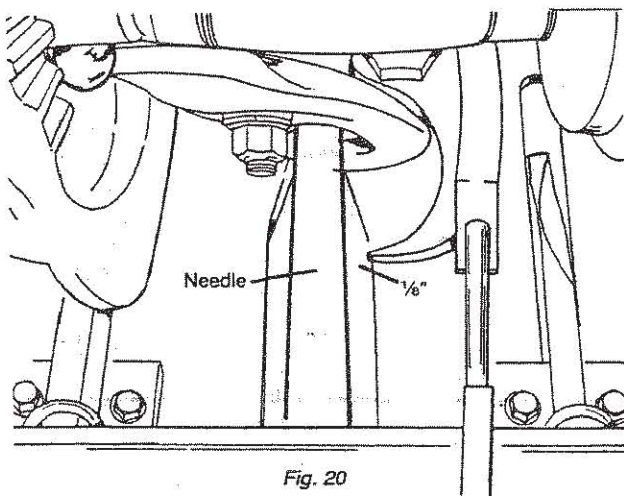

Fig. 20
a. Trip the knotter and turn the flywheel counterclockwise until the point of the twine finger is just passing the inside edge of the needle. The point of the twine finger should clear the needle by $\frac{1}{8}$ ", Fig. 20.